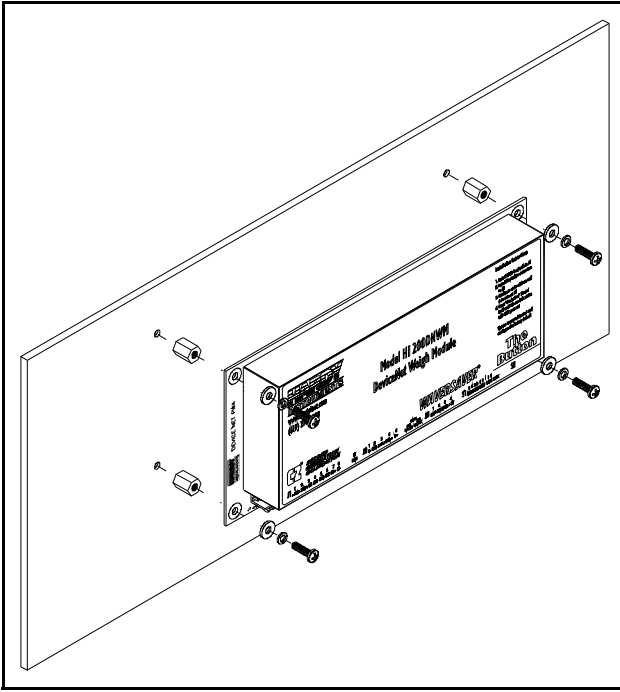

FIG. 3-3 FASTENING MODULE TO BACK PLATE
- Step 3. Mount the four standoffs into the back panel. (See Fig. 3-3)
- Step 4. Fasten the weigh module to the standoffs by installing the four (4) pan head screws. (See Fig. 3-3)